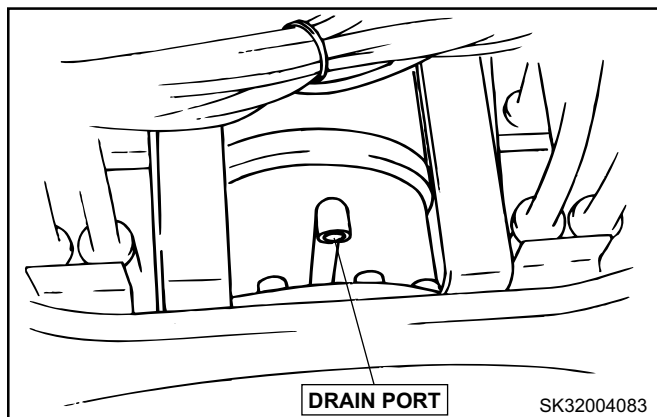

FIGURE 4.36D
- a. Locate drain port under the center opening of the lower frame. See Figure 4.36D.